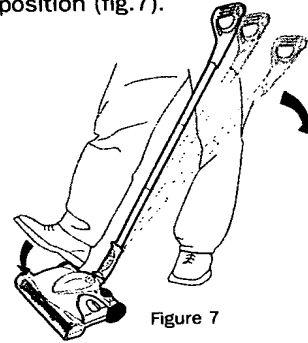

Figure 7
3. Park and release the Handle Tubes (10) to an optimum position (fig.7).